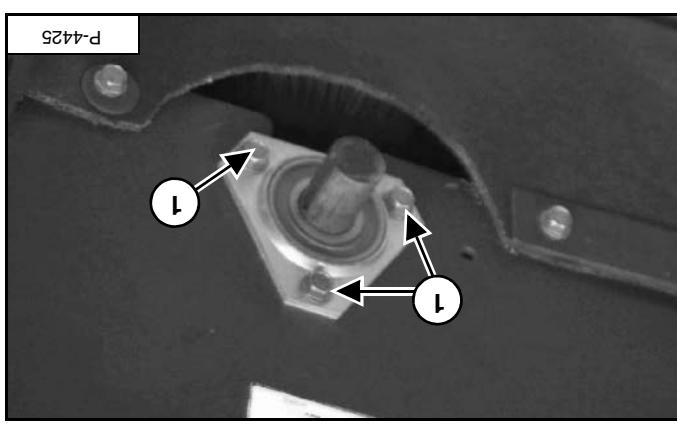

Figure 114
Remove the bolts (item 1) [Figure 114] from the bearing mounting flange (both ends).